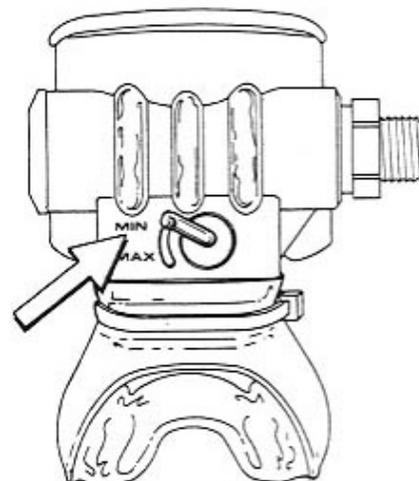

Figure 14
- Connect the first-stage regulator to a fully charged SCUBA cylinder. Place the vane adjustment switch (item 2) in the "MIN" position (see figure 14). Slowly pressurize the regulator to 3000 ± 100 psig, then close the bleeder valve on the test pressure gauge. The intermediate test pressure gauge should indicate a "lockup" pressure of 140 ± 5 psig.
- Once the intermediate pressure lockup is 155 psig (160 psig for octopus), depress the purge cover. While purging the regulator, adjust the crown orifice (item 8) by compressing the adjustment tool knob to engage the screwdriver slot of the crown, then turn the adjustment knob of the in-line adjustment tool counterclockwise 1/4 turn. Next, release the purge cover and check for a slight leak from the second-stage. If no leak is detected, repeat adjustment, 1/4 turn at a time, until a leak begins. Once you have a slight leak, purge the regulator and turn the in-line adjustment tool clockwise just until the leak stops.
- With an 1/8-inch screwdriver, loosen the adjustment screw (item 14) by turning the screwdriver counterclockwise until there is just barely a leak. Next, turn the adjustment screw clockwise until the leak stops.